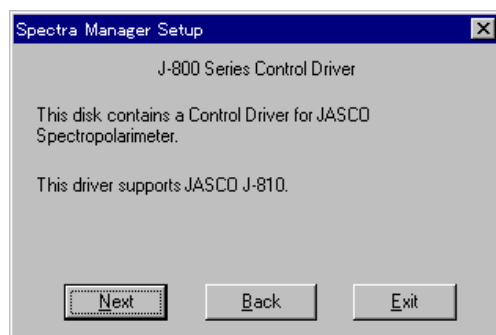

Fig. 9.11 Confirmation of control driver
- (4) Insert the [Driver Disk] disk into the floppy disk drive. Click the <Next> button. The screen shown in Fig. 9.11 appears.